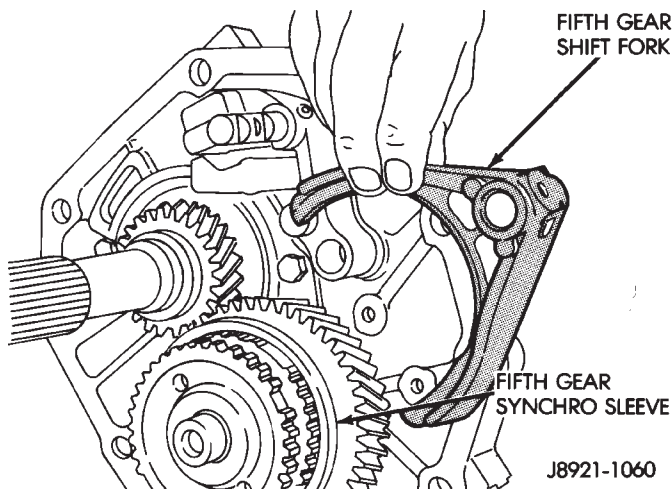

Fig. 30 Fifth Gear Shift Fork Removal
(9) Move fifth gear shift rail forward until it clears shift fork.
(10) Remove fifth gear shift fork from synchro sleeve (Fig. 30).